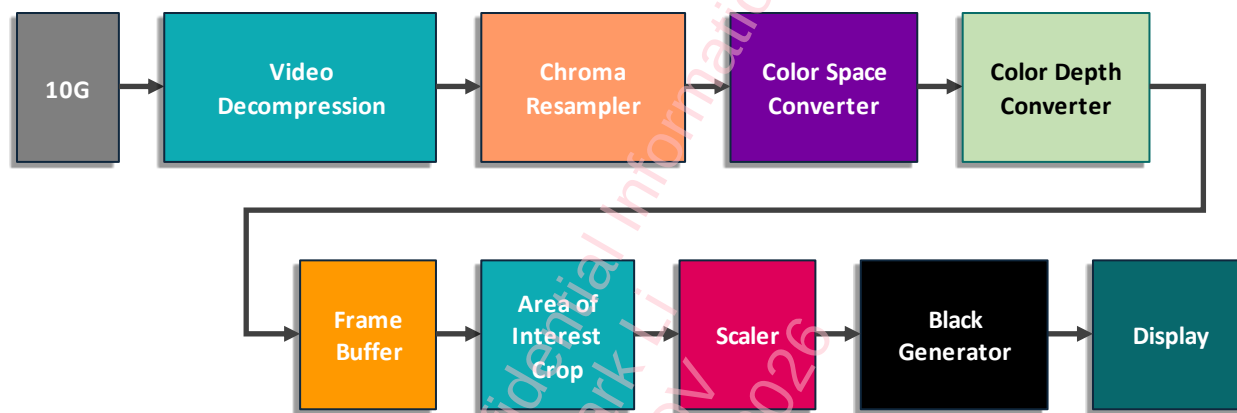

Figure 34: Block View of Decoder Processing
- Each display is connected to a decoder (RX).
- The video source is connected to an encoder (TX) that sends the source video to each of the subscribed decoders (RX) that assimilate the wall grid.
- Each decoder (RX) crops an “Area of Interest” according to its position in the wall grid and then uses the scaling engine to generate an output raster to display the cropped area on screen.
When in Wall mode, a decoder (RX) uses multiple processing blocks inside the AV processing engine. Refer to Figure 34: Block View of Decoder Processing below for illustration. The decoder’s cropping engine is used to crop the Area of Interest (AOI) from the initial source. The AOI is presented to the scaler to display the cropped region.